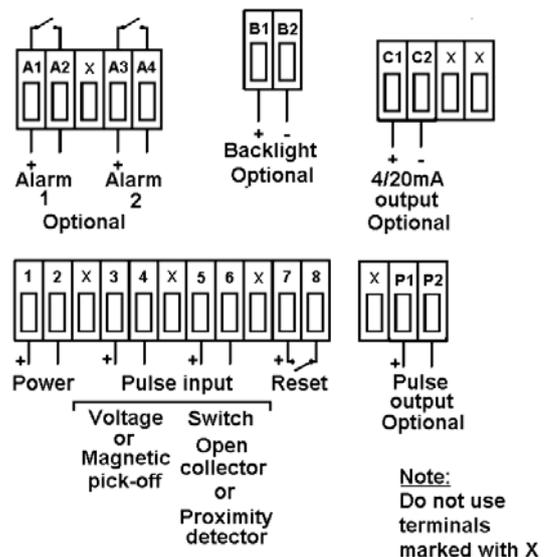

Fig 7 Installation and terminal connections
- Fix panel mounting clips to opposite sides of the instrument and tighten until the instrument is secure as shown in Fig 7. Four clips are required to achieve an IP65 seal between the instrument enclosure and the panel.
- Connect the panel wiring to the rear terminal block(s) as shown in Fig 7. To simplify installation, the terminals are removable so that panel wiring can be completed before the instrument is installed.